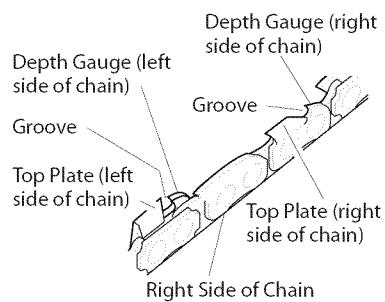

Figure 33 - Chain Part Locations
4. Hold file guide level. Make sure 30° mark on file guide is parallel to center of guide bar (see Figure 33). This will insure that you file cutters at 30° angle.
5. File from inside towards outside of cutter until sharp. Only file in this one direction (see Figure 33). Note: Two or three strokes with file should sharpen cutter.